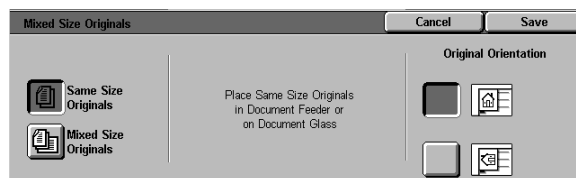

Figure 34: Mixed Size Originals screen with Same Size option selected
1 In the Added Features tab, select the **Mixed Size Originals** icon to display the Mixed Size Originals screen, as illustrated in Figure 34.
- Touch the **Same Size** option (default) when the original documents are all the same size, as illustrated in Figure 34.